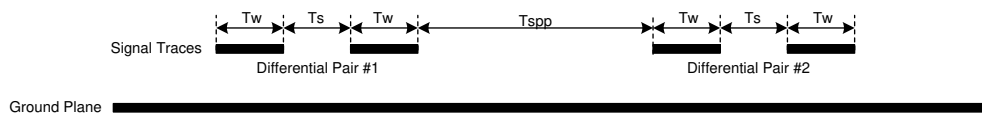

图 9-15. DMD Differential Layout Recommendations
DLPC6540 I/O timing parameters as well as DMD I/O timing parameters can be found in their corresponding data sheets. Similarly, PCB routing mismatch can be budgeted and met through controlled PCB routing. PCB design recommendations are provided in 表 9-7, 图 9-15, and the paragraph below as a starting point for the customer.
- (1) Recommendations to achieve the desired nominal differential impedance as specified by R_{DIFF} in 节 6.7.
- (2) These parameters show recommendations based on the micro-strip design shown in 图 9-15. This design minimizes signal loss to support longer trace lengths at the expense of electromagnetic interference (EMI). The designer has the option to use of a stripline design for shorter trace lengths and to target minimizing EMI at the expense of signal loss.
- (3) A reduced inter-lane spacing can be used to escape the Controller ball field, however, widen this spacing to at least the stated minimum after escape.